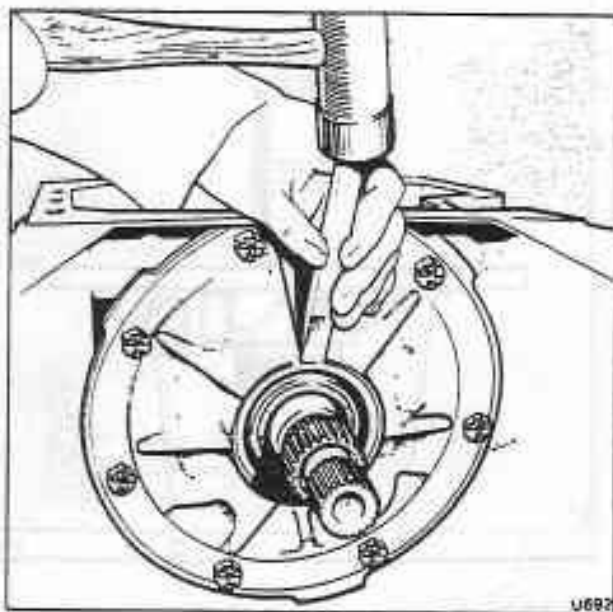

Fig. T4-4 Removing the oil pump seal
2. Carefully drive the point of a chisel under the lip of the seal then prise the seal out of the pump body (see fig. T4-4).